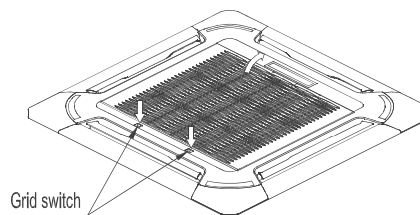

Fig. 5-7
- Slide two grill switches toward the middle at the same time, and then pull them up. (Refer to Fig.5-7)